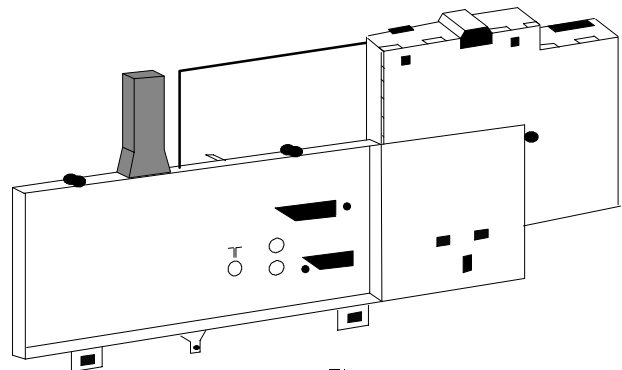

Fig. 7.
4. Unclip the front metal cover (fig.7) and remove from the A-board.
4. Retirer le capot métallique (Fig.7) de la PCB-A.